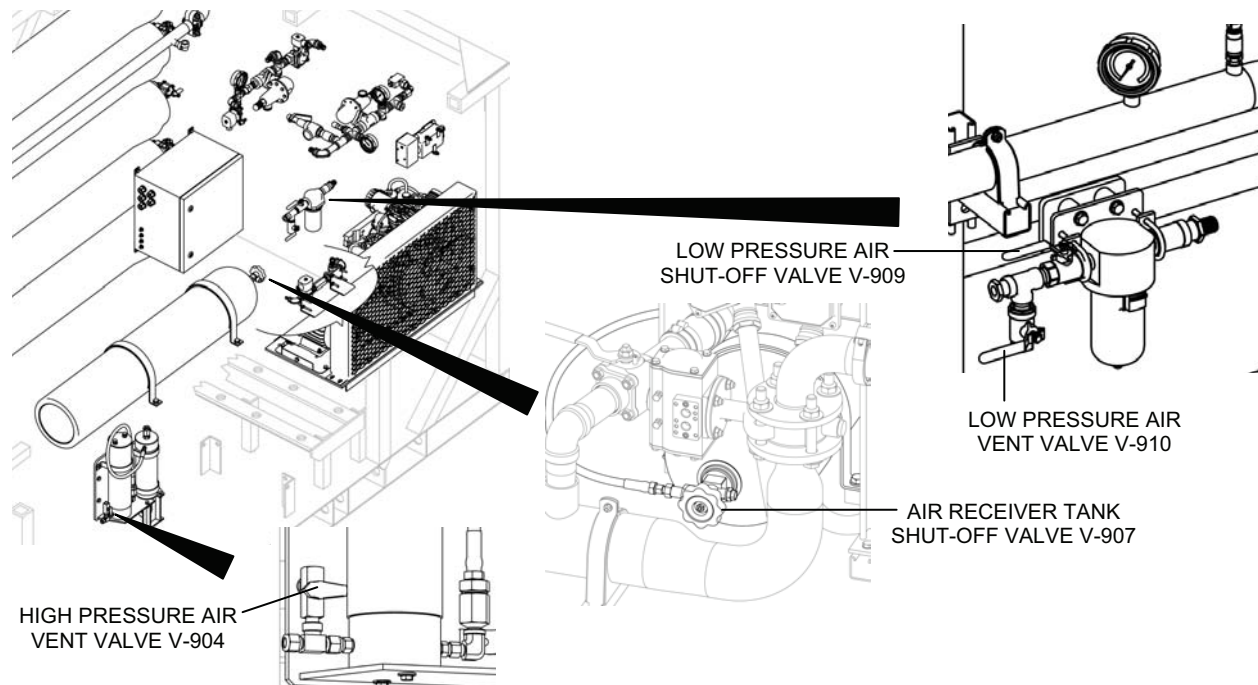

Figure 1. Valves for Bleeding the Entire Air System.
2. Bleed the entire air system as follows (see Figure 1 for valve location):